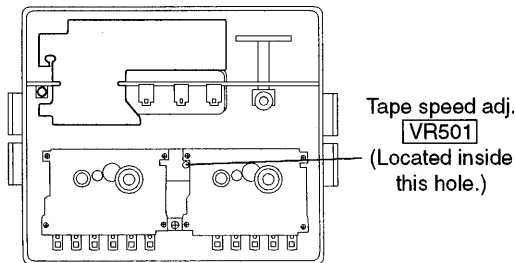

Fig. 5
- Adjust **VR501** for the output value shown below. (Fig. 5)